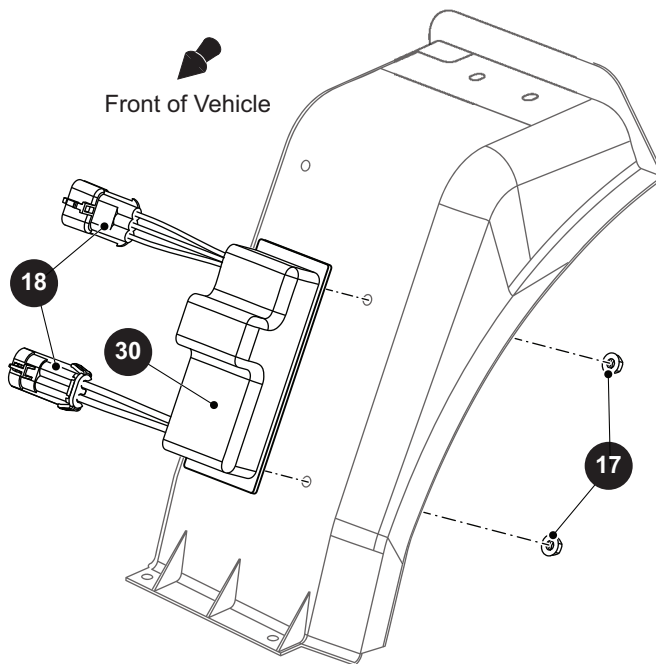

Fig. 13 DC to DC Converter
2. Disconnect the electrical connectors (18) (Ref Fig. 13).
3. Remove the lock nuts (17) securing the DC to DC converter (30) to the fender.